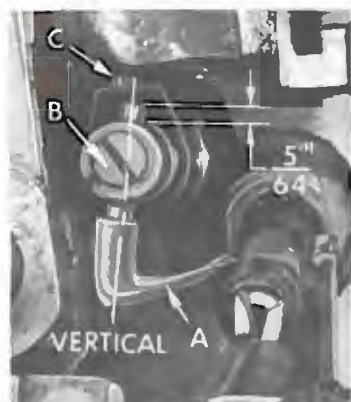

Fig. 6
Insert upper looper (A, Fig. 6) in its holder. Screw (B) holds the looper in its holder and permits looper to be pushed in or out, or turned around its shank. Screw (C) on the collar, holds looper holder in the shaft and allows the holder to be rotated or adjusted laterally.
Preliminary Setting: When looper is at the right end of its stroke, looper holder should be set to position the looper shank about vertical (Fig. 6). The top end of the looper shank should extend approximately $\frac{5}{64}$ inch above holder (Fig. 6).